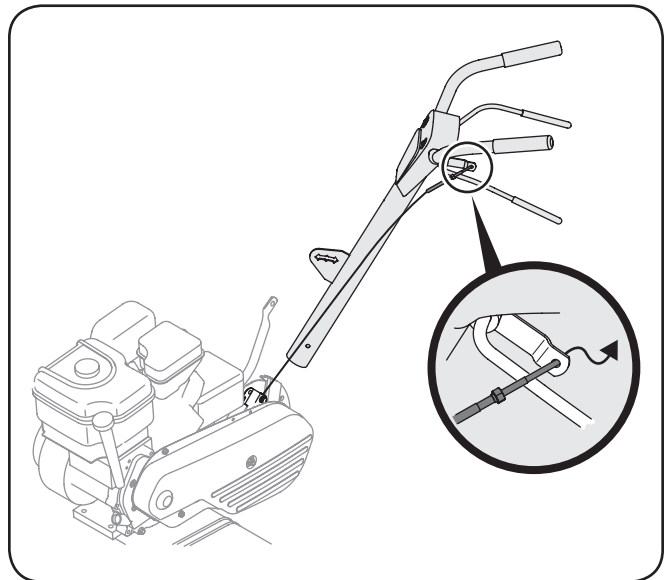

Figure 1-2
2. Hook the "Z" end of the forward clutch cable into the tine engagement lever Figure 1-2.